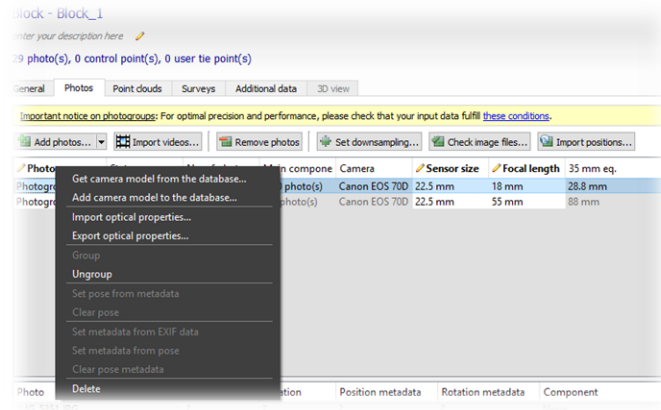

Figure 14: add camera model to database” / “get camera model from database (right-click on the photogroup)
- Perform the AT of the 20-30 photos of your object (non-critical setup) and add the resulting camera calibration to the database (Right click on the photogroup -> “add camera model to the database”, Figure 14).